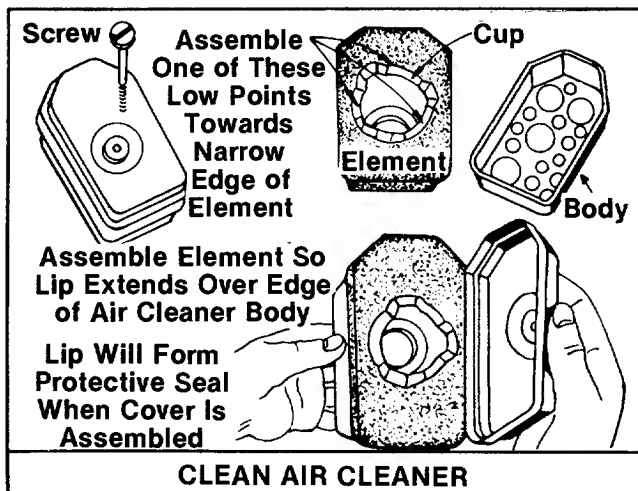

FIGURE 22.
**CLEAN AIR CLEANER** and re-oil element every 25 hours under normal conditions. Clean every few hours under extremely dusty conditions. Poor engine performance and flooding usually indicates that the air cleaner should be serviced. See figure 22.